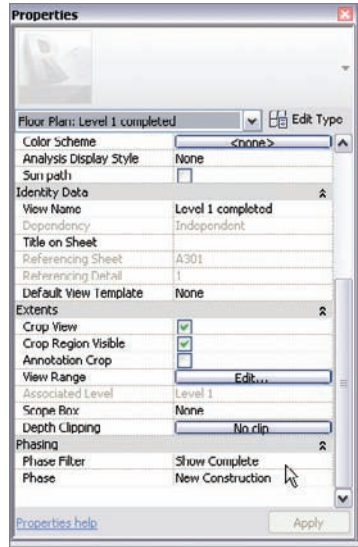

FIGURE 21.18 The Show Complete phase filter
4. Change Phase Filter to Show Complete, as shown in Figure 21.18.